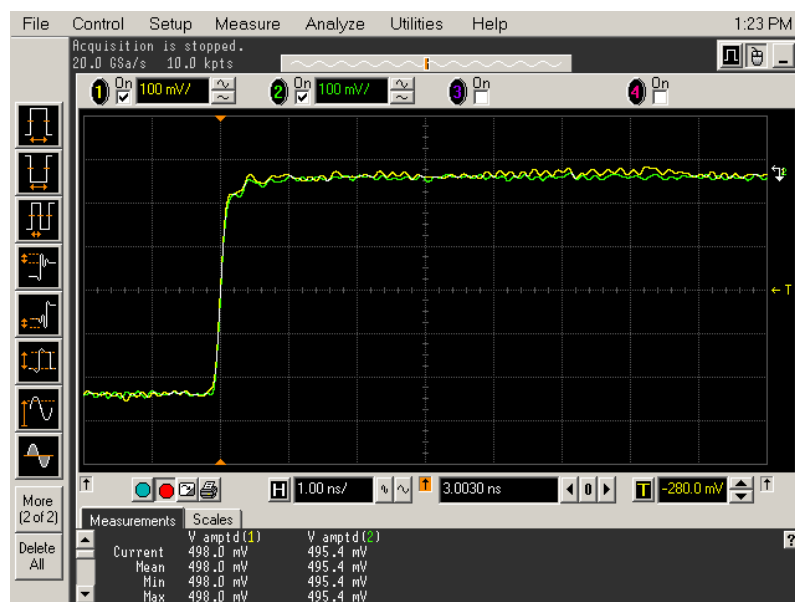

Figure 110 Overlapping Waveforms
- 23 In the Acquisition Setup dialog box enable averaging. When you close the dialog box, you should see waveforms similar to that in **Figure 110**.